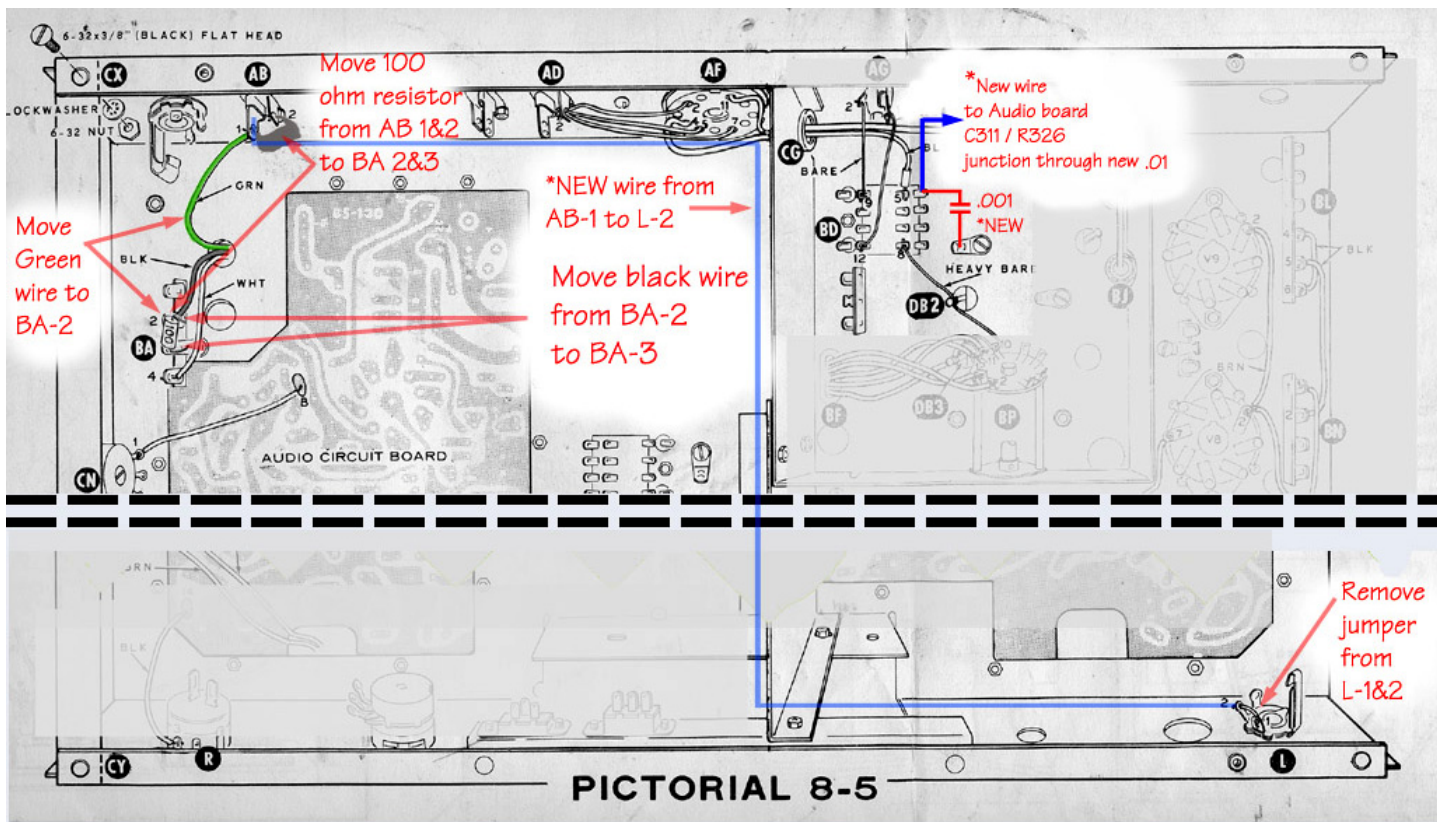

Figure 1
These rigs are designed to be used with Hi-Z headphones, but if low-Z phones are used the outboard speaker will not mute completely with the phones connected. To convert to low-Z phones, make the following wiring changes referring to *(Figure 1)* of this document, and pictorial 8-4 (foldout from page 53), and pictorial 8-5 (foldout from page 67) of the HW-101 manual:
- 1) Connect a .001 μ fd disk capacitor (DO NOT use a higher value) from relay RL1 pin 1, to ground (**Figure 1**).